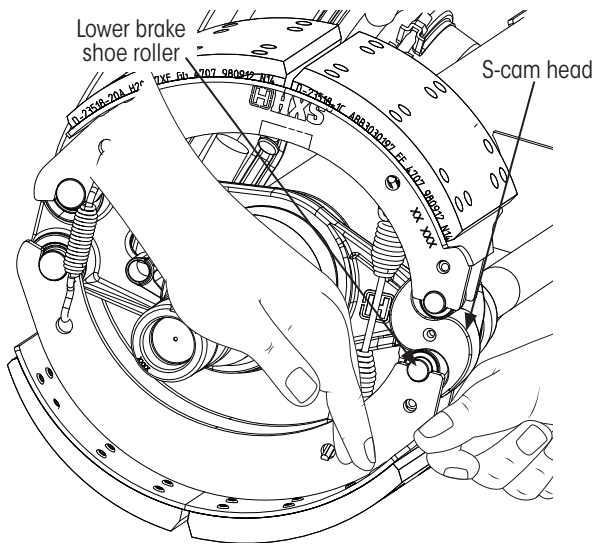

Figure 1: Removing lower brake shoe roller and roller retaining clip
1. **Push down** on the lower brake shoe, as shown in Figure 1, and **remove** the lower brake shoe roller and roller retaining clip.
IMPORTANT: The brake shoes must be fully retracted in order to remove the lower roller and clip. When the brake shoes are fully retracted, the brake shoe rollers will rest in the valley of the S-cam head as shown in Figure 1. To retract the brake shoes, follow the procedure described in the **RETRACTING BRAKE SHOES OR SLACK ADJUSTER CONTROL ARM** on page 28.